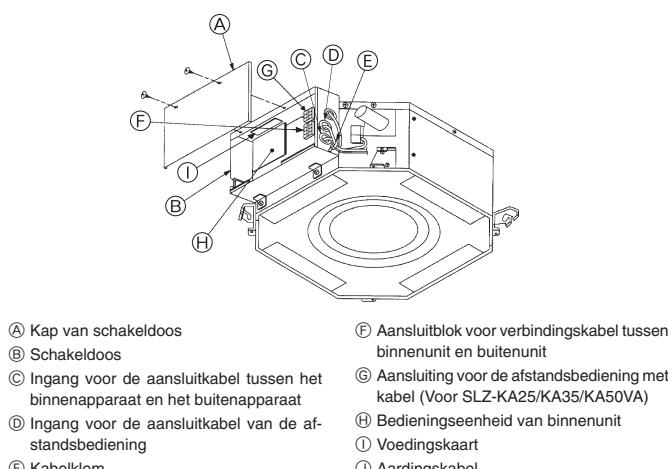
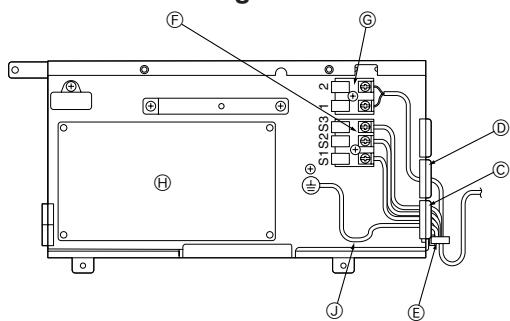

Fig. 7-2
Fig. 7-3
7.2. Binnenunit (Fig. 7-2) (Fig. 7-3)